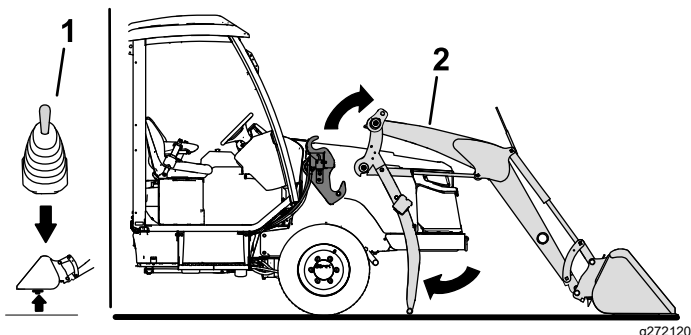

Figure 48
- Use the loader joystick to raise the loader arms out of the loader-frame mounts (Figure 48).